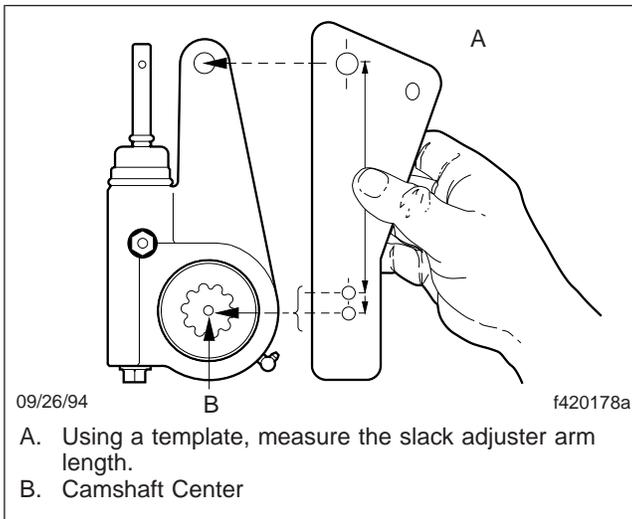

Fig. 5, Slack Adjuster Measurement
- 7.1 Using an installation template, measure the old and new slack adjusters. Measure from the center of the large clevis-pin hole to the center of the camshaft opening. See Fig. 5. Make sure the old and new slack adjusters are the same length.